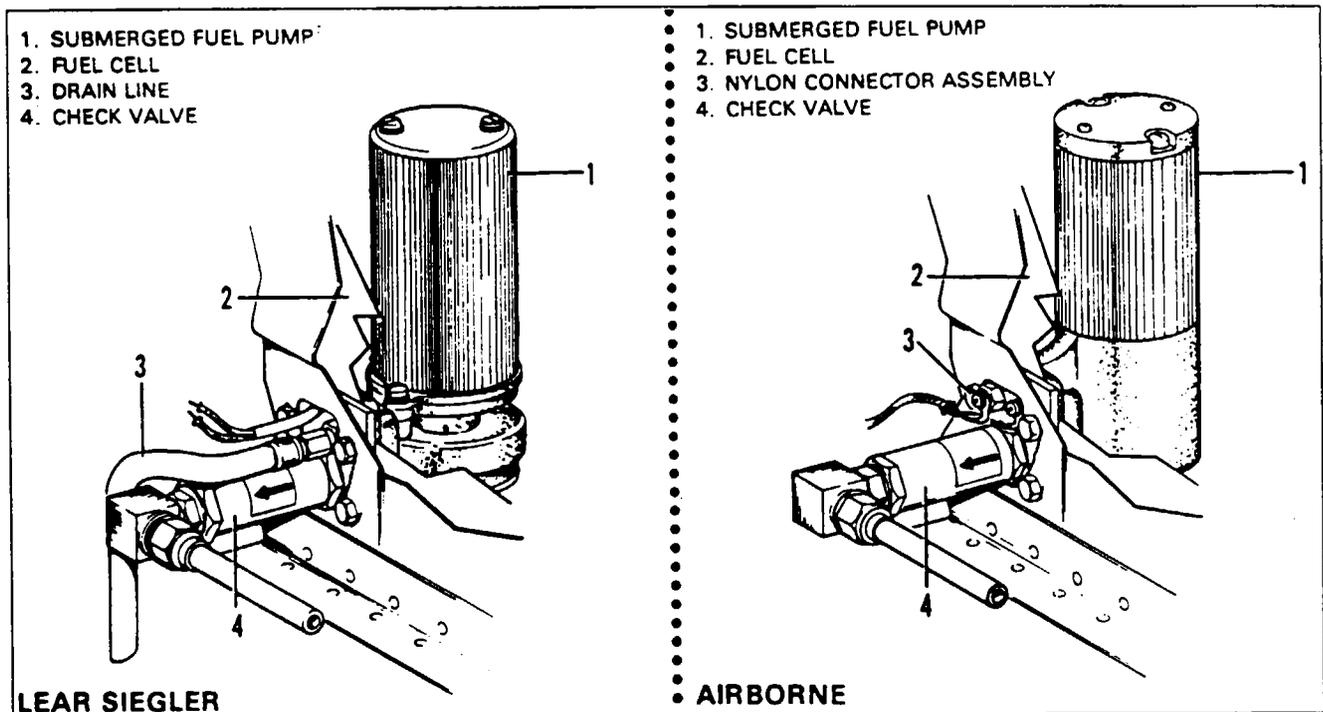

Figure 28-14. Submerged Fuel Boost Pump
**REMOVAL OF SUBMERGED FUEL PUMPS.** (Refer to Figure 28-14).
**INSTALLATION OF SUBMERGED FUEL PUMP. (Refer to Figure 28-14.)**